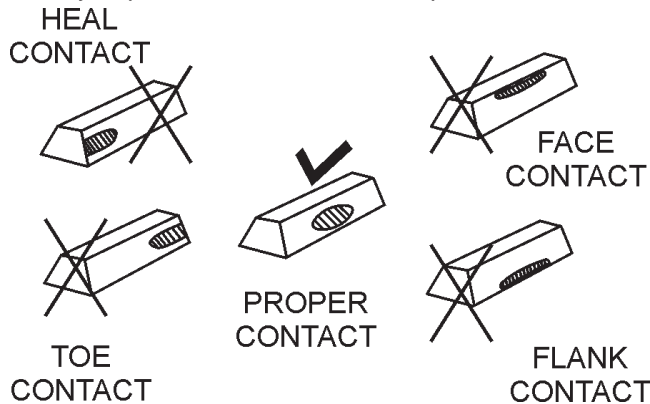

Figure 32. Gear Teeth Alignment
4. If gear teeth are not contacting properly (Figure 32), adjust pillow block to correct the problem.